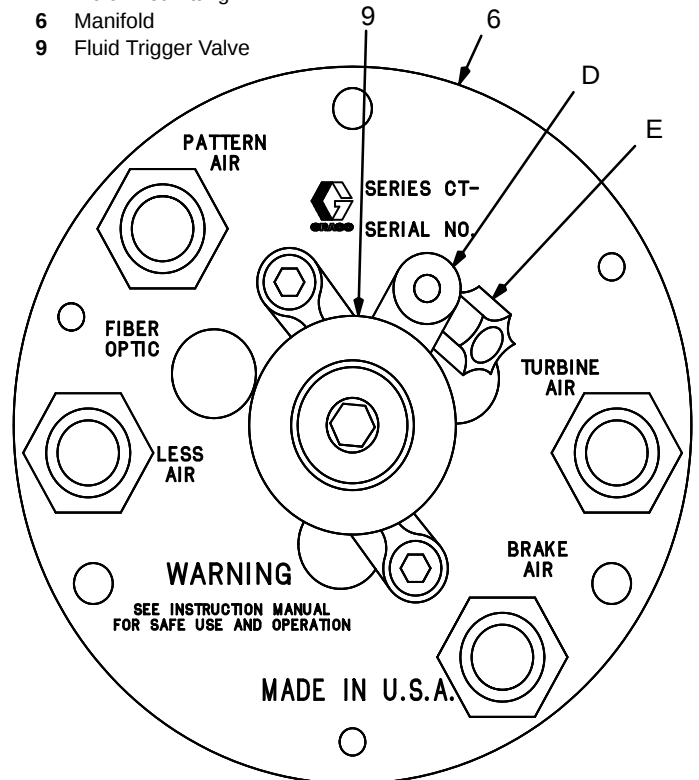

Fig 3
Remove the shipping plug from the fiber optic port. Push the fiber optic cable (G) into the manifold and secure it with the fitting (F) finger tight. See Fig 3. Do not exceed 50 ft. (15.24 m) cable length to the control panel. See the Accessories Section to order a fiber optic cable. Contact your Graco representative for information on a speed controller or speed monitor.